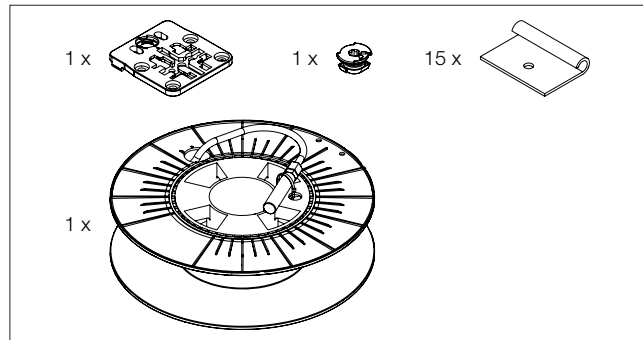

Fig. 1: Accessories provided
- Accessories provided (fig. 1)